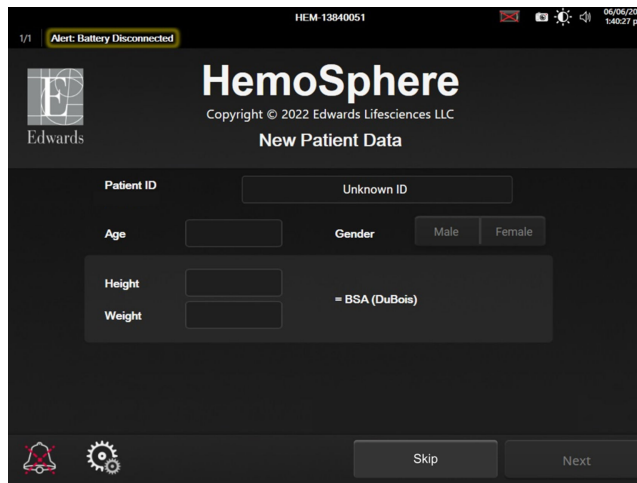

Figure 6-2: New Patient Data screen
5. The **New Patient Data** screen appears. See Figure 6-2 on page 138.